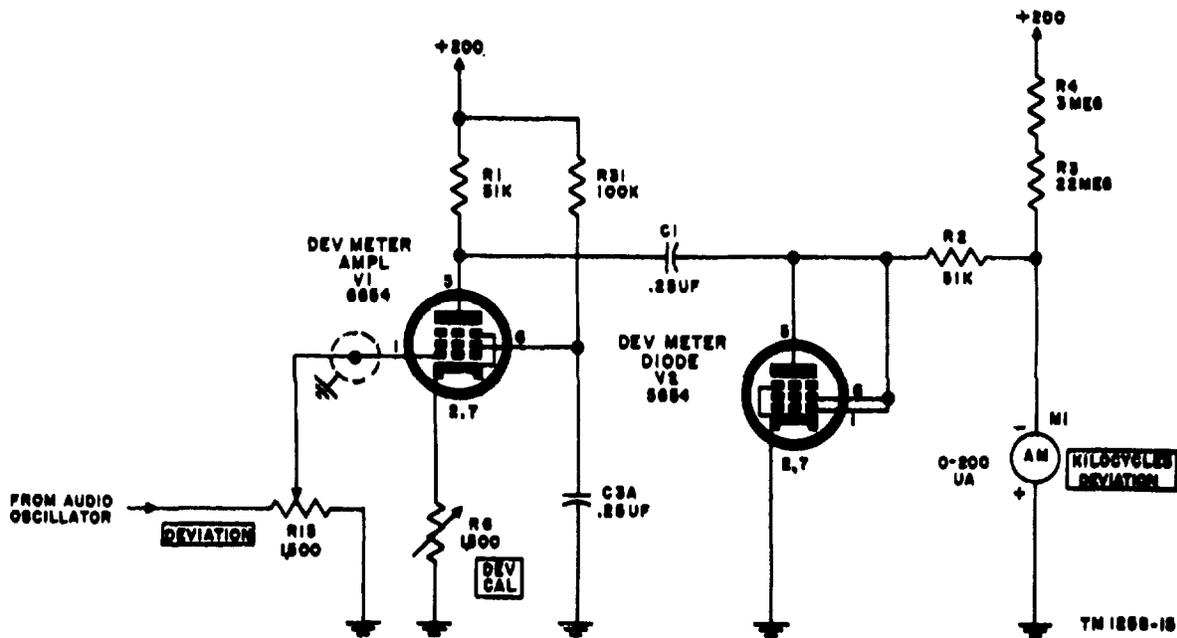

Figure 16. Deviation indicator circuit.
c. The audio output signal at the plate of V4 is fed to DEVIATION control R15 (fig. 16) through capacitors C2B and C2A, resistor R16, and MODULATION switch S2 section 1 rear (fig. 44). Screen voltage for V3 and V4 is applied through resistors R20 and R30. Capacitors C5 and C8B are screen bypass capacitors.
a. The deviation indicator circuit (fig. 16) consists of V1, a type 5654 pentode, operating as a voltage amplifier; tube V2, a type 5654 connected as a diode, operating as a rectifier; and a 200-microampere meter (M1) calibrated to indicate deviation in kc.
c. Potentiometer R6 (fig. 16) in the cathode of V1 is a deviation meter adjustment. It adjusts the operating bias of V1. Resistors R3 and R4 in series with M1 cancel the effect of diode contact potential which, otherwise, would produce a current through M1 with a consequent error in deviation indication, particularly at low deviation levels. Screen voltage for V1 is obtained from the positive 200-volt source and is applied through resistor R81.